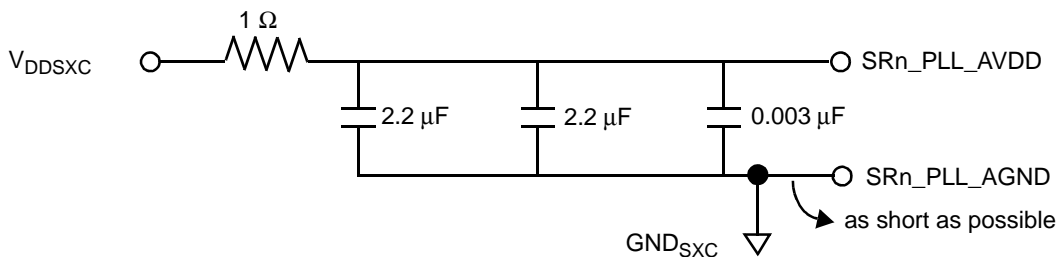

Figure 38. SerDes PLL Supplies
- Couple inputs SR1_PLL_AVDD and SR2_PLL_AVDD with SXCVD1 and SXCVD2 power rails, respectively, using an RC filter (see Figure 38).
Each SerDes PLL power supply must be filtered using a circuit similar to the one shown in Figure 38, to ensure stability of the internal clock. For maximum effectiveness, the filter circuit should be placed as closely as possible to the SR_n_PLL_AVDD ball to ensure it filters out as much noise as possible. The ground connection should be near the SR_n_PLL_AVDD ball. The 0.003 μF capacitor is closest to the ball, followed by the two 2.2 μF capacitors, and finally the 1 Ω resistor to the board supply plane. The capacitors are connected from SR_n_PLL_AVDD to the ground plane. Use ceramic chip capacitors with the highest possible self-resonant frequency. All trances should be kept short, wide, and direct.